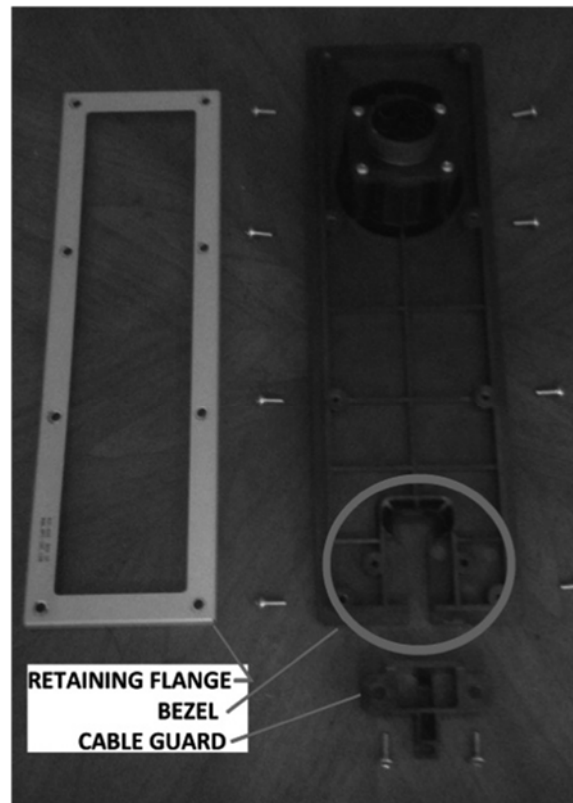

Figure 17 – Front Bezel Disassembled
4. Remove the 2 Phillips-head screws attaching the lower cable guard to the bezel. Retain the screws for later re-installation. Remove the cable guard from the bezel (see Figure 17).
11. Reinstall the lower cable guard into the bezel. Reinstall the 2 Phillips-head screws attaching the lower cable guard to the bezel. Torque screws to 10 in-lbs. Do not over-tighten screws or you may damage the plastic! (See Figure 17, page 15)